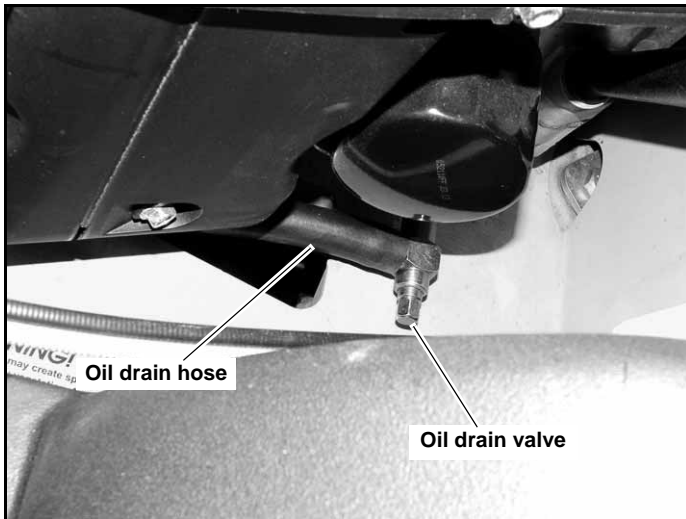

Figure 4-5
##### B. Draining the engine oil (units equipped with oil drain valve as shown in Figure 4-5):
1. Locate the oil drain valve on the engine. Figure 4-5